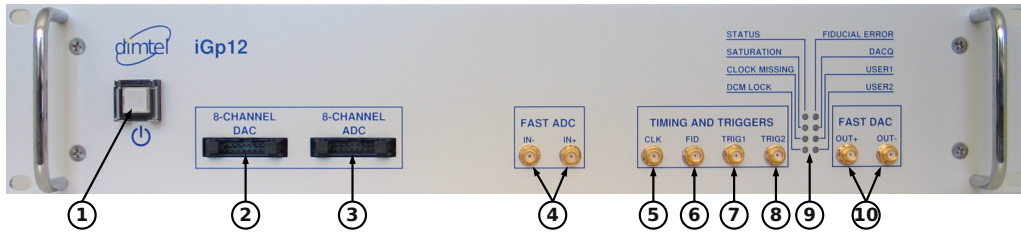

Figure 2: Front panel features
2. Connect RF clock at -3 dBm nominal level (Fig. 2, item 5);
3. Connect single-ended high-speed ADC input signal to **Ain+** (Fig. 2, item 4). The FS swing of this signal should be 780 mV peak-to-peak;
4. Connect a $50\ \Omega$ terminator to **Ain-** (Fig. 2, item 4);
5. Connect high-speed DAC output(s) (Fig. 2, item 10) to the appropriate back-end unit;
9. Push the power button (Fig 2, item 1) to turn on the system;
11. Push the power button (Fig 2, item 1) to turn the system off;